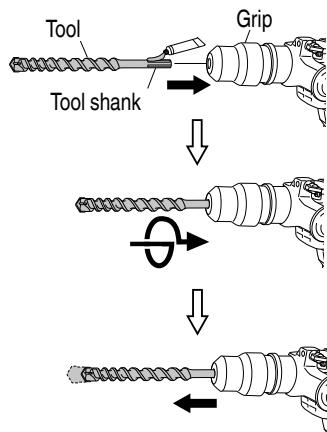

Fig. 10
(1) Clean, then smear the tool shank with the grease provided in the green tube.
(2) To attach the tool (SDS max shank), insert it into the hole until it contacts the innermost end of the hole as illustrated in Fig. 10.